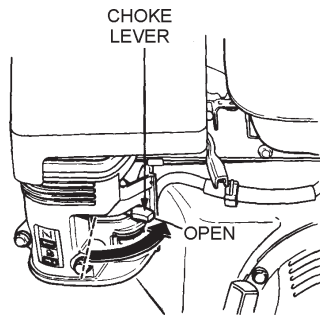

Figure 15. Choke Lever (Open)
- If the engine has started, slowly return the choke lever (Figure 15) to the "OPEN" position. If the engine has not started repeat steps 1 through 6.